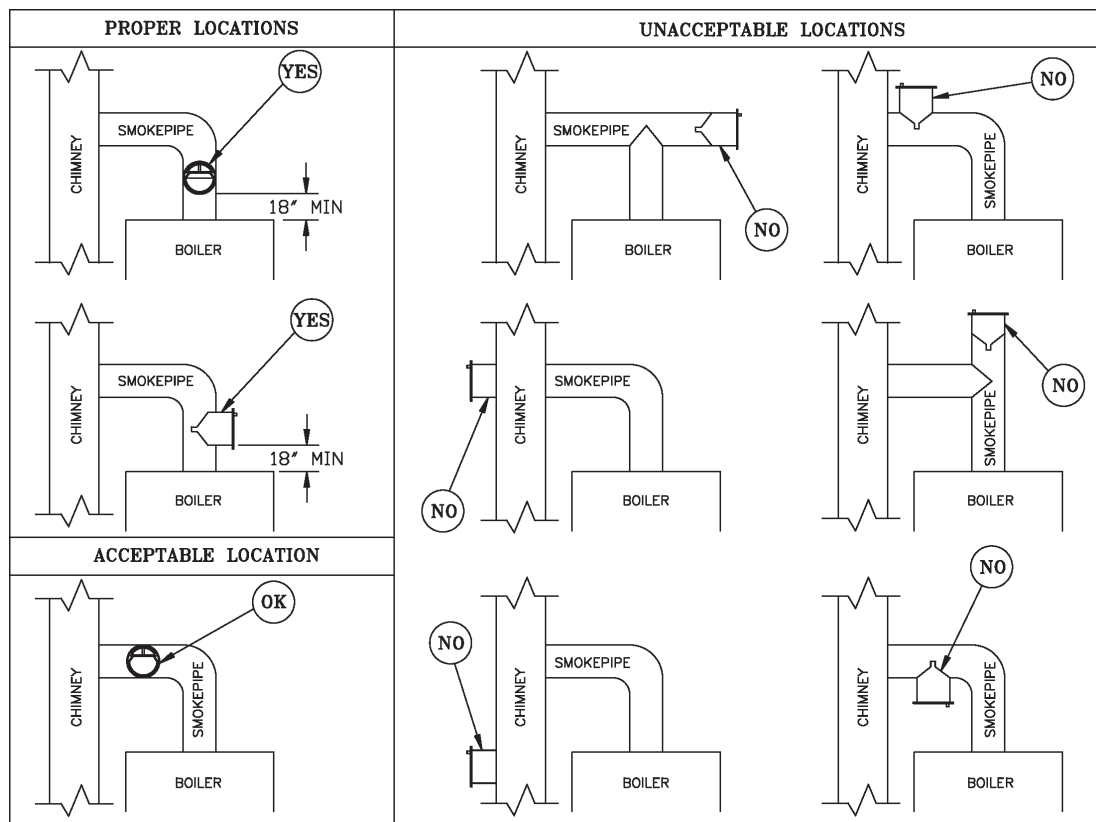

Figure 16: Proper and Improper Locations of Draft Regulator
1. Install a draft regulator (supplied by installer) following the instructions furnished with the regulator. See Figure 16 for draft regulator locations.
- A. CONNECT Link SL™ or other Indirect Water Heater Piping as shown in Figures 16 and 17. Refer to Link SL™ or other Indirect Water Heater Instruction Manual for additional installation information.